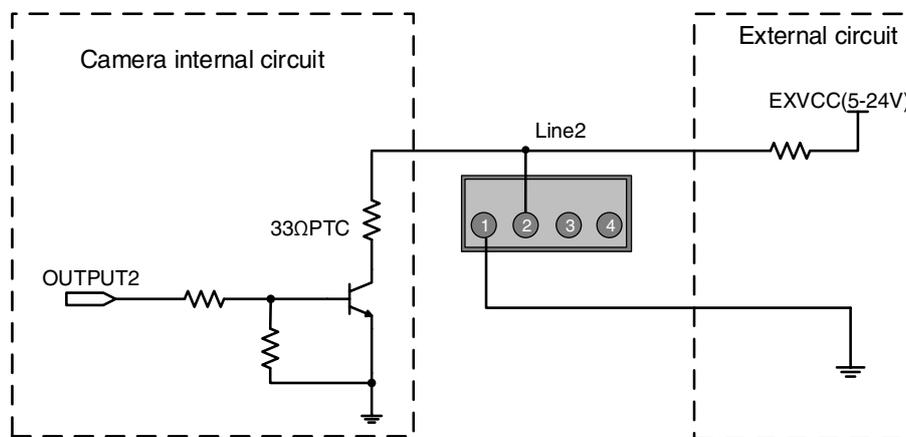

Figure 7-19 Internal equivalent circuit of camera when Line2 is configured as output
- When Line2/3 is configured as output, the internal equivalent circuit of camera is shown in Figure 7-19, take Line2 as an example